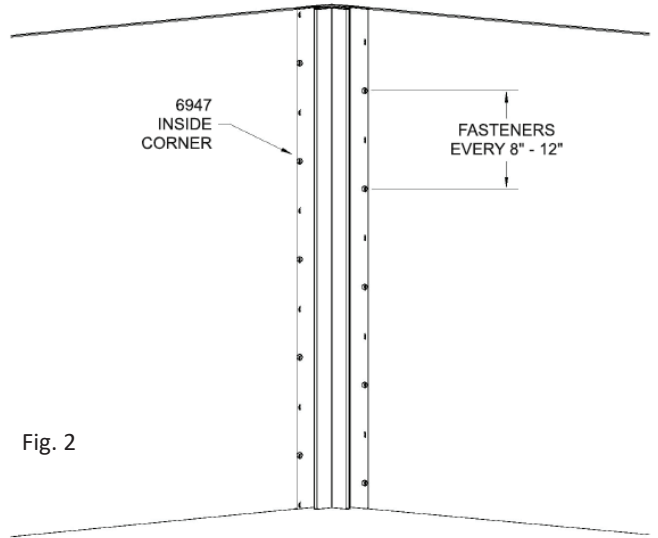

Fig. 2
- 4) Install the J-channels against the block in the direction of the inside walls. Fasten every 8" to 12" along the nail hem making sure the profiles are securely fastened using galvanized, stainless, or corrosion resistant nails or screws (Fig. 2).